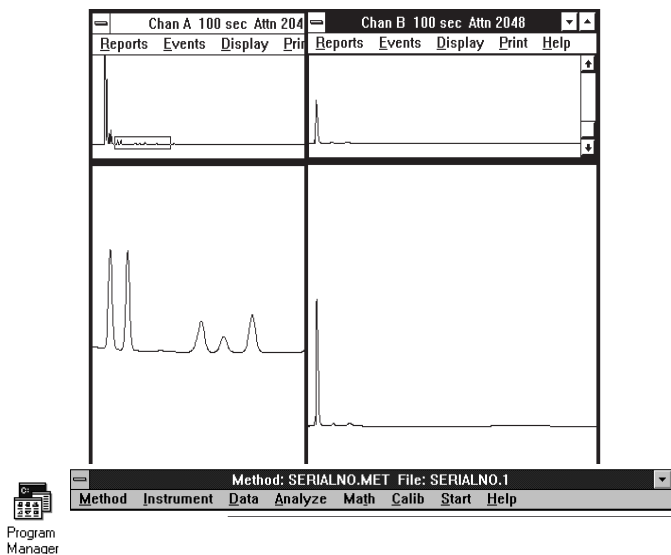

Figure 12 Channel B overlay
7. Click the **left** mouse button. This will cause the channel B window to be redrawn “above” the channel A window (See Figure 12). Zoom boxes may now be drawn as previously described.